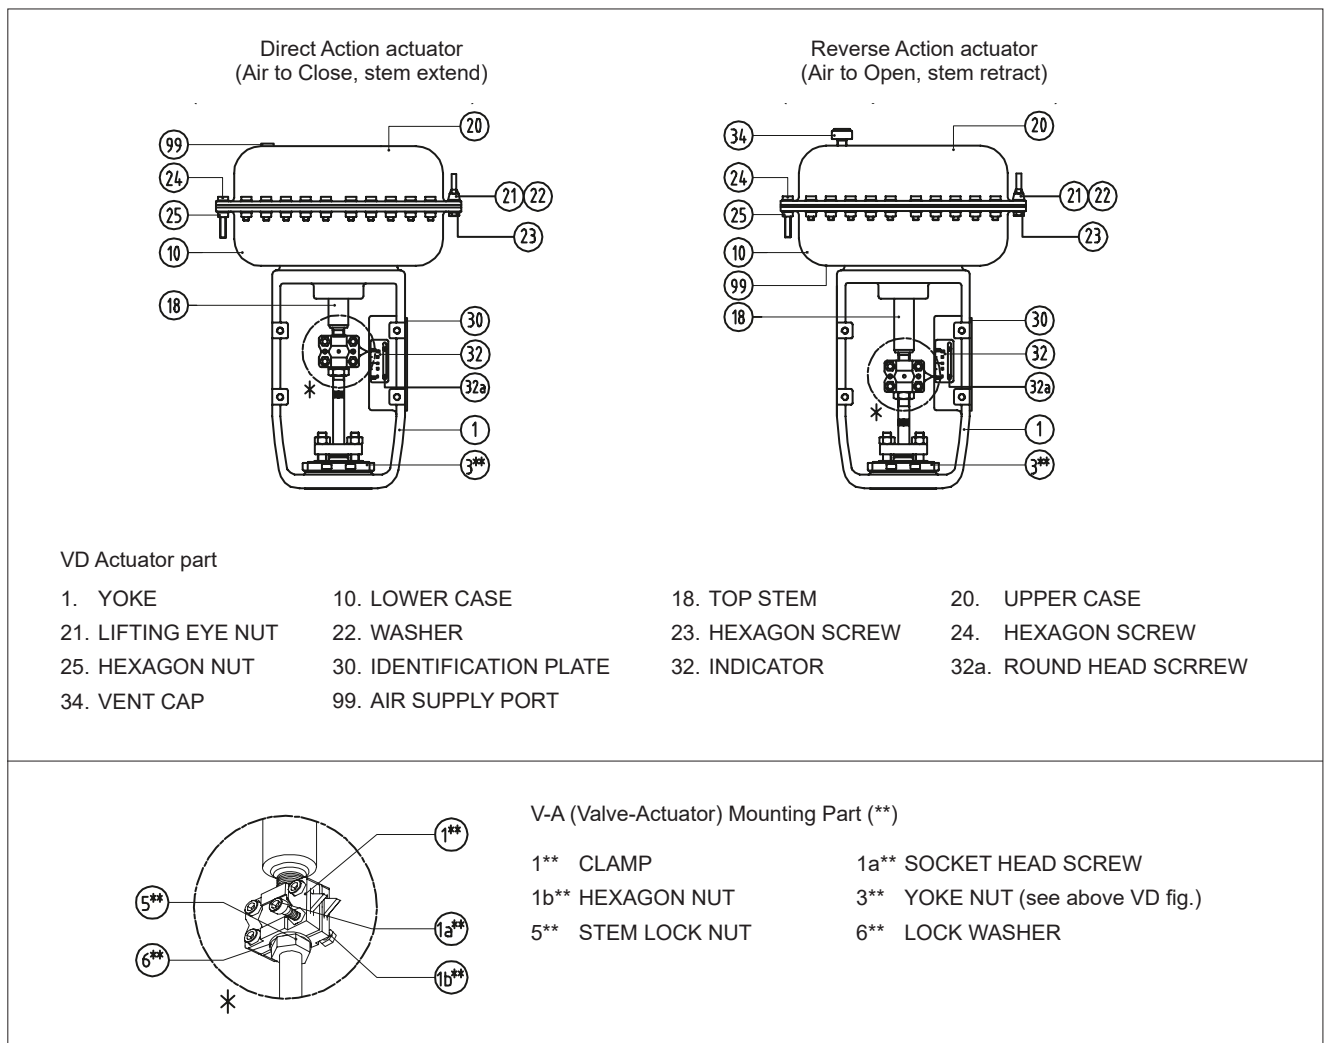

Fig. 11 VD Actuator
A. Actuator removal for Reverse <air to top seat close, stem retract> actuator (Fig. 11)
B. Actuator replacement (mounting) for <air to top seat close, stem retract> actuator (Fig. 11)
- Lift the top stem (18), using by specified air pressure.